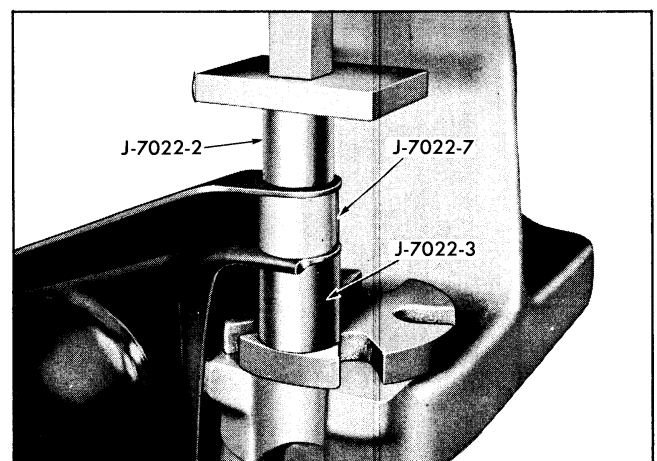

Fig. 3-24 Installing Rear Bushing in Front Lower Control Arm
3. Install new bushing in control arm using components of tool J-7022 in manner illustrated in Fig. 3-24.